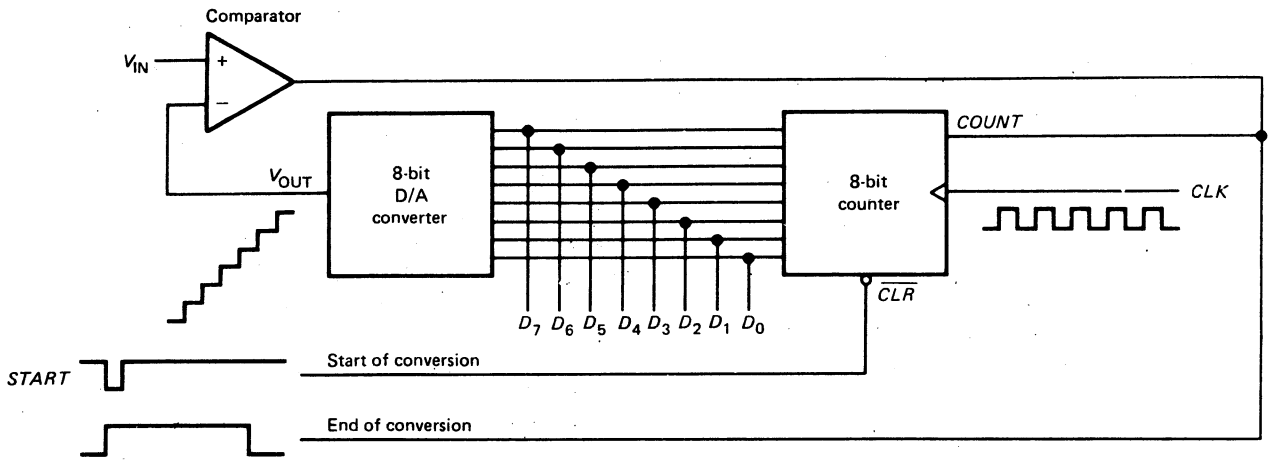

Fig. 16-31
- 16-9. The 8-bit D/A converter of Fig. 16-31 has a maximum output voltage of 2 V. If the $V_{IN} = 1.5$ V, what is the digital output D_7 to D_0 at the end of the conversion?